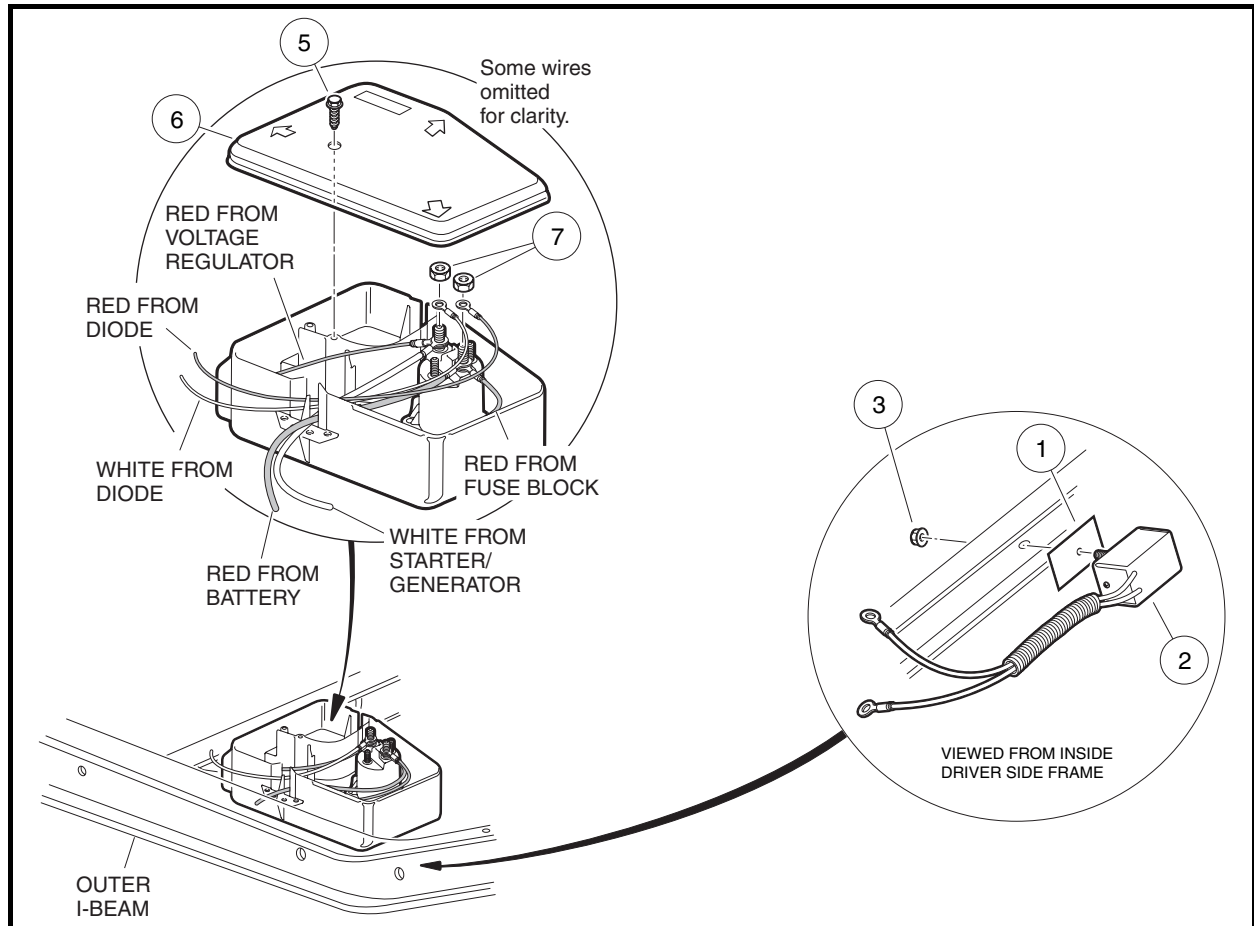

Figure 12-16 Electrical Component Box and Diode Orientation
4. Remove the cover screw (5) and electrical component box cover (6) (**Figure 12-16, Page 12-13**).
5. Remove the nuts (7) from the two large solenoid posts and disconnect the diode wires from the solenoid.
6. Remove the nut (3) and remove the diode (2) and thermal transfer pad (1) from the vehicle frame (**Figure 12-16, Page 12-13**).
2. Peel the protective film from both sides of the new thermal pad (1) (**Figure 12-16, Page 12-13**). **See following CAUTION.**
3. Mount the diode (2) using the thermal transfer pad (1) and mounting nut (3) and tighten to 25 in-lb (2.8 N·m) (**Figure 12-16, Page 12-13**). **See following NOTE.**
NOTE: *Diodes are mounted in one of two different locations, depending on the vehicle model (Figure 12-16, Page 12-13).*
- 4.1. Connect the 12-gauge red wire from the diode to the solenoid post with the fuse block and battery red wires and tighten locknut to 90 in-lb (10.2 N·m) (**Figure 12-16, Page 12-13**).